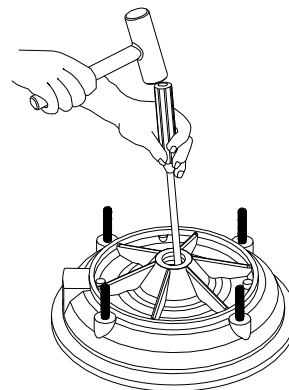

Figure 12
- Place pump body half face down on flat surface and tap out stationary half of seal (See Figure 12).